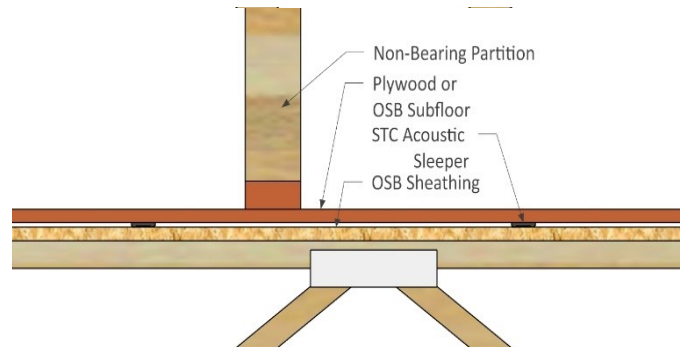

Figure 4: Section at non-bearing partition
- Fig. 4: Typical detail for non-load-bearing partitions. No plywood or OSB bearing strip required unless partition is fire-resistance-rated. Avoid loads on partitions.